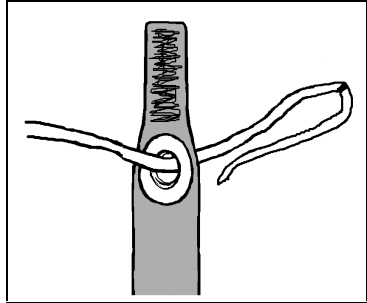

Figure 4.
Step 2.) Form a bite in the control line at the mark set at the factory. (See Figure 4)